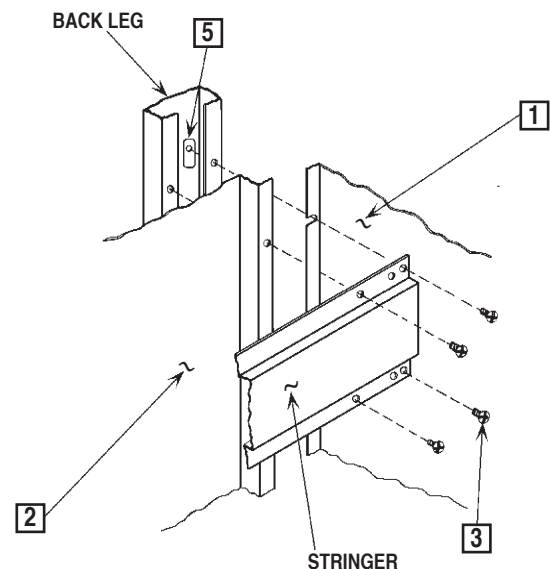

FIGURE 19
2. Position and fasten the back filler panel (Item 2) to the back legs of the work bench with (2) screws and weldnuts (Items 3 & 5) as stated in Step 2 of the Back Filler Panel assembly instructions above. **DO NOT ATTACH STRINGER AT THIS TIME.**
3. Position and fasten the end filler panel (Item 1) to the shelf supports with (2) screws and nuts (Items 3 & 4) as stated in Step 2 of the End Filler Panel assembly instructions above. Repeat procedure at the other end.
4. Replace the stringer so that the holes on the end of the stringer are aligned with the holes and slots of the end filler panel, back filler panel and the back legs. Fasten all four pieces together with hardware originally provided. See Figure 19.